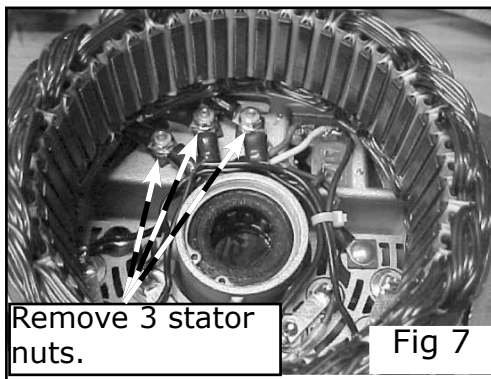

Fig 7
Step 5: Remove three stator nuts then remove stator from rear housing (Fig 7)